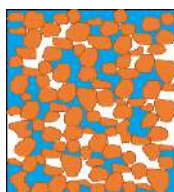

Fig 1
1. Represent Fig 1 as a phase diagram by volume. What nature of soil does this phase diagram represent?